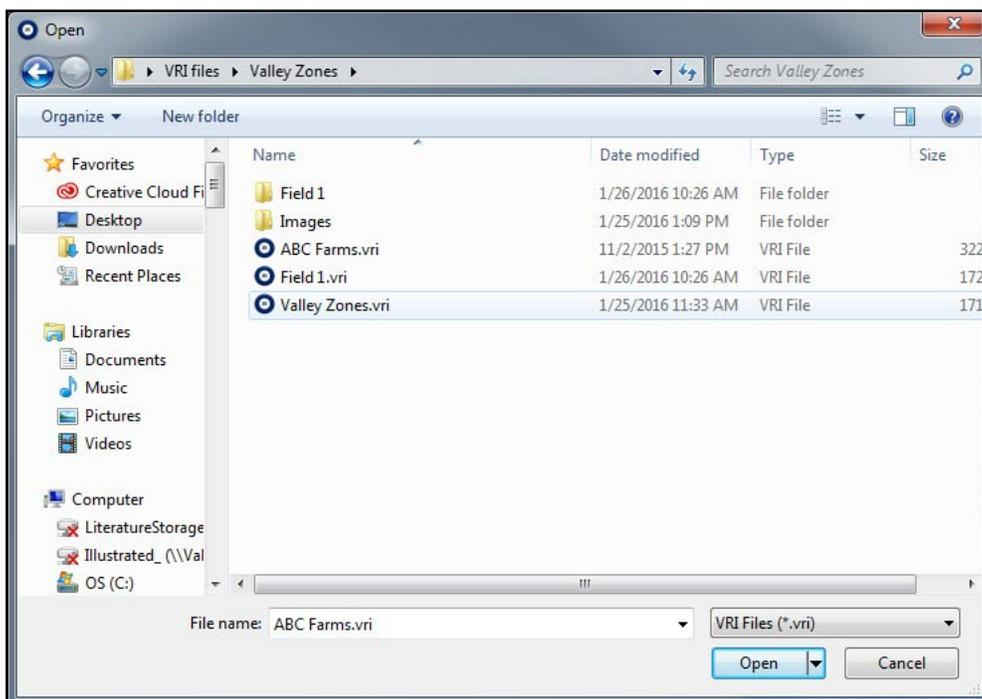

Figure 28-2 Open Project From Folder
2. Click on **Open Project**, locate it in the appropriate project folder, and click on it to open it. See Figure 28-2.